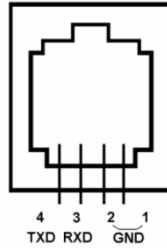

Figure 10. Serial port pin-out on an 8407+ hand controller
- Serial port: connect the HC to a computer via a RS232 to 4P4C RJ9 cable. The pin-out of the serial port is shown in Figure 10.